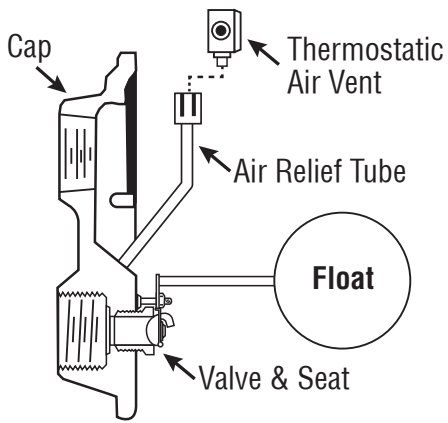

Figure 4. Float & Thermostatic Trap
6. Inspect all of the moving parts. Remove all worn or damaged parts and replace them with new parts. Figures 4, 5, 6, and 7 show all critical or moving parts. Check that each item is in good condition and operates normally. Inspect the lever and guide pin assembly for indications of wear. See that the float is not dented or corroded. Look for pinhole leaks in the float.